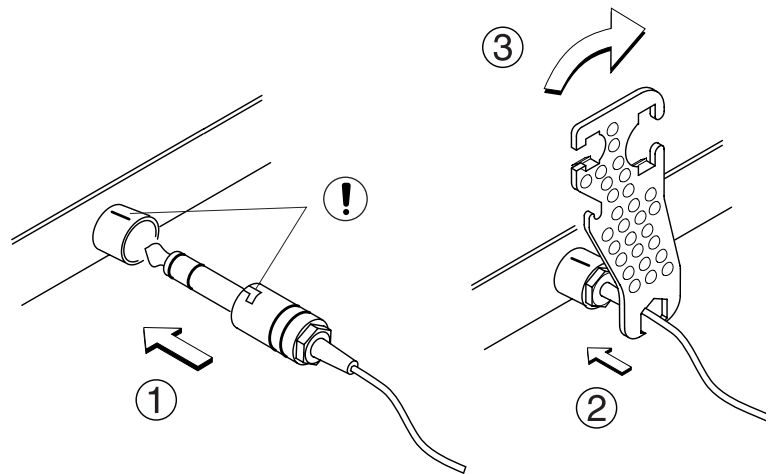

Fig. 12. Connecting drives
3. Interlock the special key by moving it 30° to the right against the end stop (cf. Fig. 12).
The drives can be directly controlled with the buttons in area A (Fig. 12) of the hand control.
Using buttons P1 to P3 of the hand control (Fig. 12, area B), positions can be reached which were pre-programmed in the control unit. Here is how to save the desired positions:
To recall the memory position, press the corresponding button P1, P2 or P3 of the hand control (Fig. 12, area B)